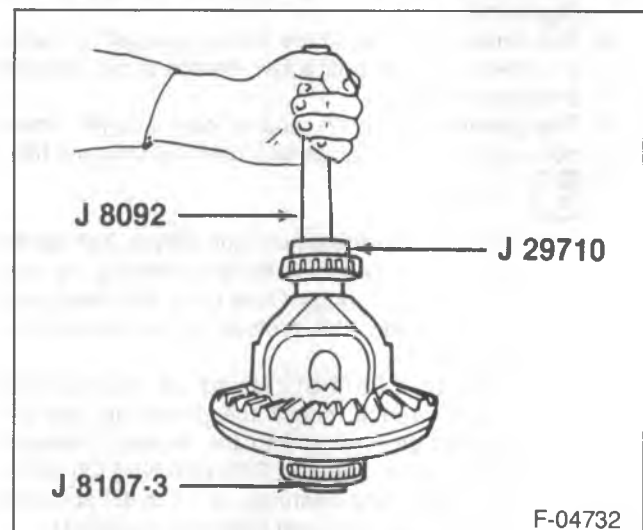

Figure 20—Installing the Side Bearing
7. Differential side bearings (22) using J 29710, J 8107-3 and J 8092 (figure 20).